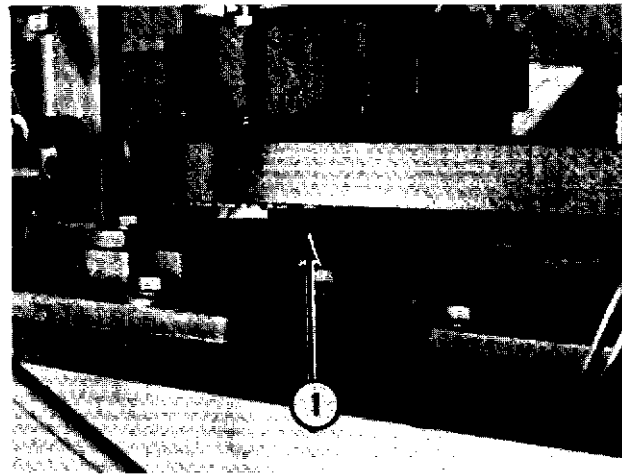

Fig. 7-4
- (1) The "V" belt should have 1/2" deflection (1, Fig. 7-4) between the drive pulley and the power bowl lift pulley.